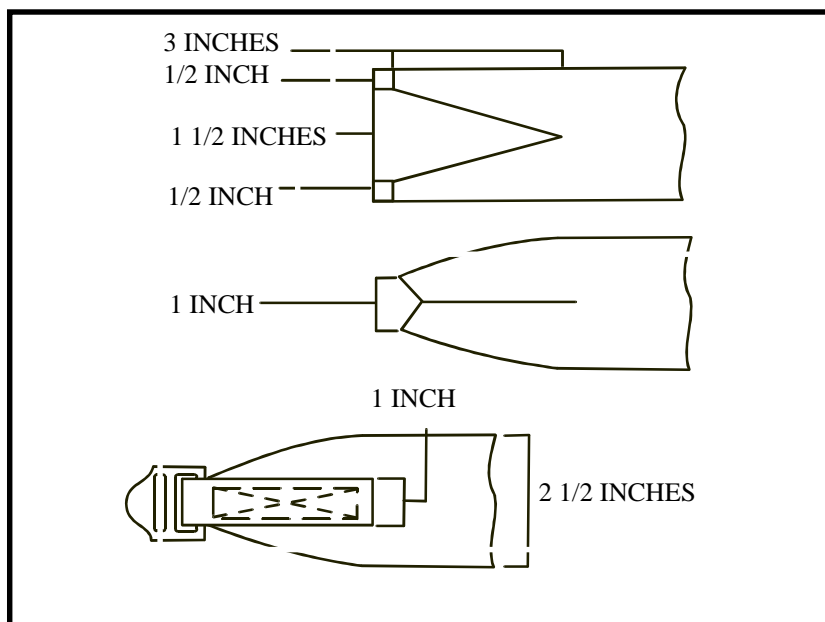

Figure 13-17. Shaped-end strap
d. **Shaped-End Strap.** A strap with a shaped end (Figure 13-17) is notched, the edges are brought together, and a billet or chape is sewn in place. A piece of reinforcement webbing is usually placed under the shaped end and sewn in place when a billet is attached.